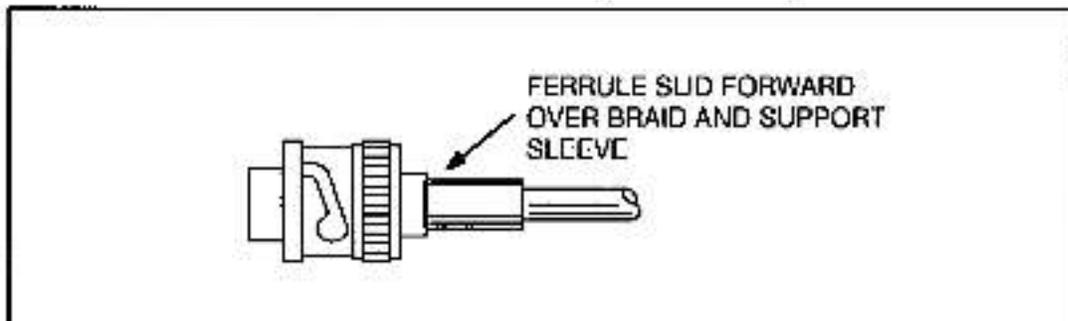

Figure 3.13 - Connector Installation Step 8 for RG-59/U Cable
- Step 8. Slide the ferrule forward over the shield braid wire and the support sleeve until the ferrule butts against the shoulder on the connector body, as shown in figure 3.13.